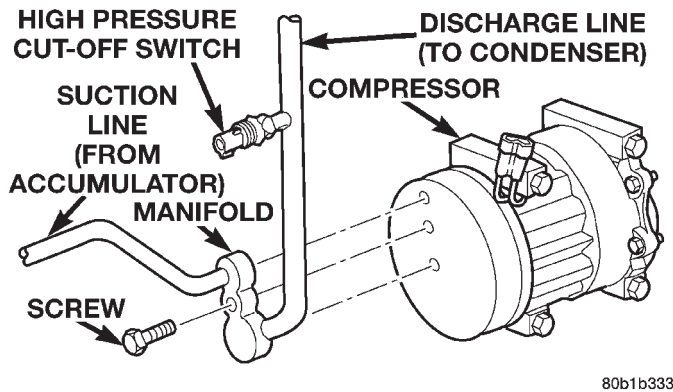

Fig. 17 Suction and Discharge Line Remove/Install - Diesel Engine
(6) On models with a gasoline engine, remove the nut that secures the refrigerant line support bracket to the stud on the compressor mounting bracket.
(7) Remove the screw that secures the refrigerant line manifold to the compressor (Fig. 16) or (Fig. 17). Install plugs in, or tape over all of the opened refrigerant line fittings.
(8) Remove the suction and discharge line assembly from the vehicle.